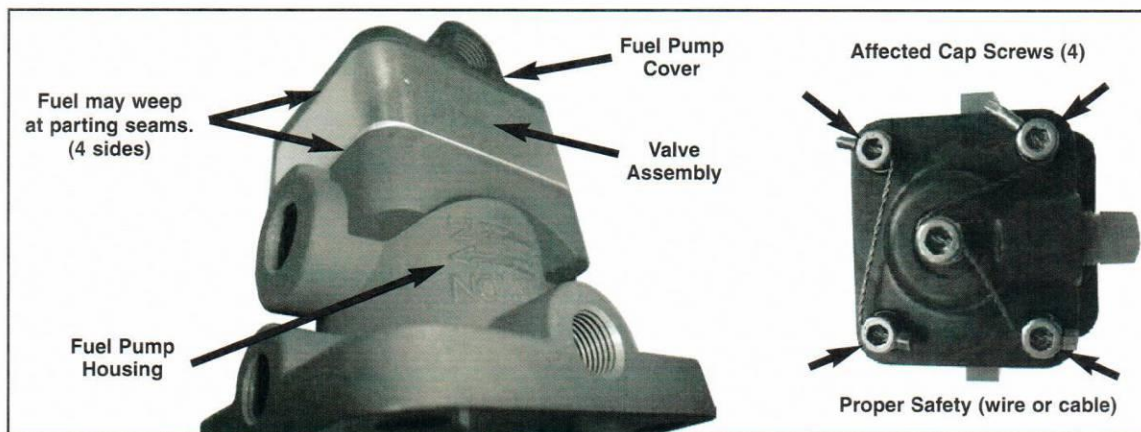

Figure 1 - 201F Fuel Pump Component Identification
- (3) Using a 5/32 inch allen wrench, remove an existing cap screw, retaining the flat washer in place.
- (4) Install a new shorter P/N NAS1352C3H20 cap screw and tighten snug but do not apply torque.
- (5) Using a socket with 5/32 inch hex stock inserted and a calibrated torque wrench, torque the new cap screws in a crisscross pattern applying 23-25 in-lbs (2.59-2.82 Nm).
- (6) Install .032 inch stainless steel safety wire or optional Safety-T-Cable™, HET P/N RX-1961 at the head of the cap screws. Tool requirements and Installation for Safety-T-Cable™ may be found at <http://www.dmctools.com>. Refer to Fig. 1.
- (7) If the fuel pump was removed from the engine for the corrective action, reinstall the fuel pump in accordance with current engine/airframe maintenance manual or service instructions.
- (8) Reinstall the fuel pump cooling cover and air hose (if applicable) in accordance with current engine/airframe maintenance manual or service instructions.